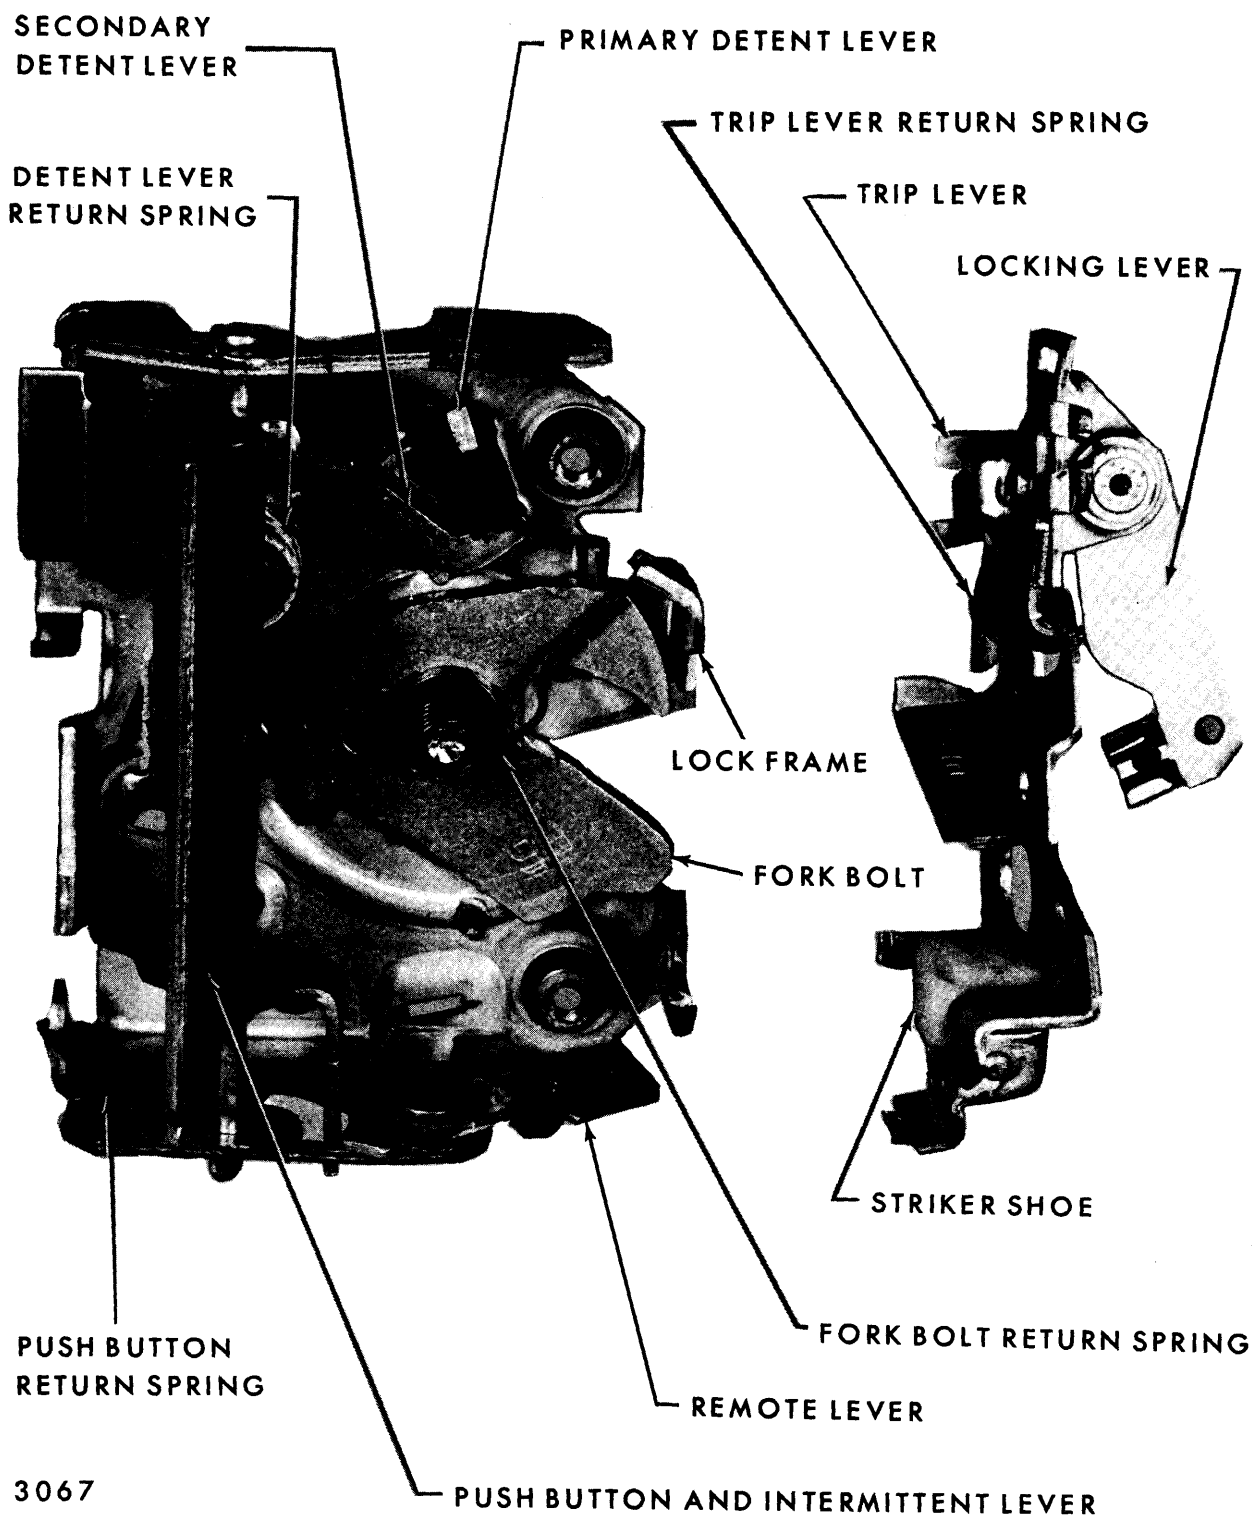

Fig. 6-116—Rear Door Lock Assembly - All Styles
**NOTE:** Figure 6-116 depicts a typical front door lock assembly which can be used for identifying locking problems. DO NOT ALTER OR REPAIR LOCK ASSEMBLIES. Replace a defective lock with a new lock assembly.